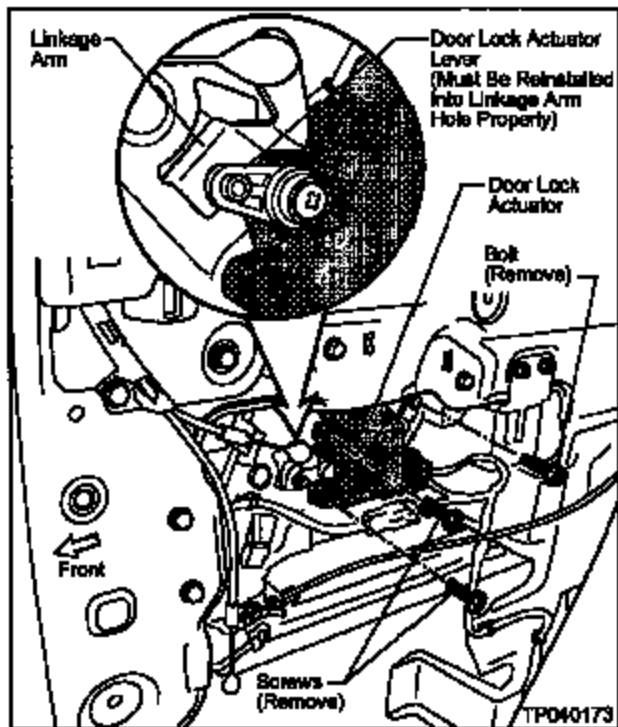

Figure 8
9. Remove two screws/one bolt and remove the Door Lock Actuator (see Figure 8).
**CAUTION: The Door Lock Actuator Lever must be reinstalled into the Linkage Arm hole properly. If not, the door lock/unlock function will not work. Refer to Figure 8.**